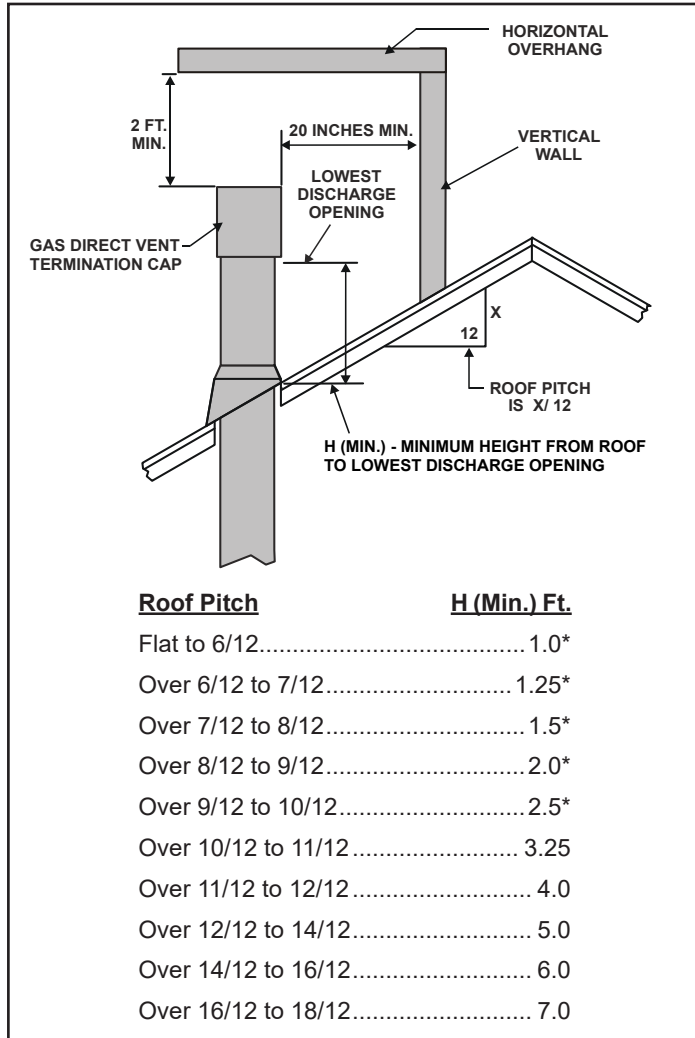

Figure 7.11 - Minimum Height From Roof To Lowest Discharge Opening
- See minimum vent heights for various pitched roofs (Figure 7.11) to determine the length of pipe to extend through the roof.